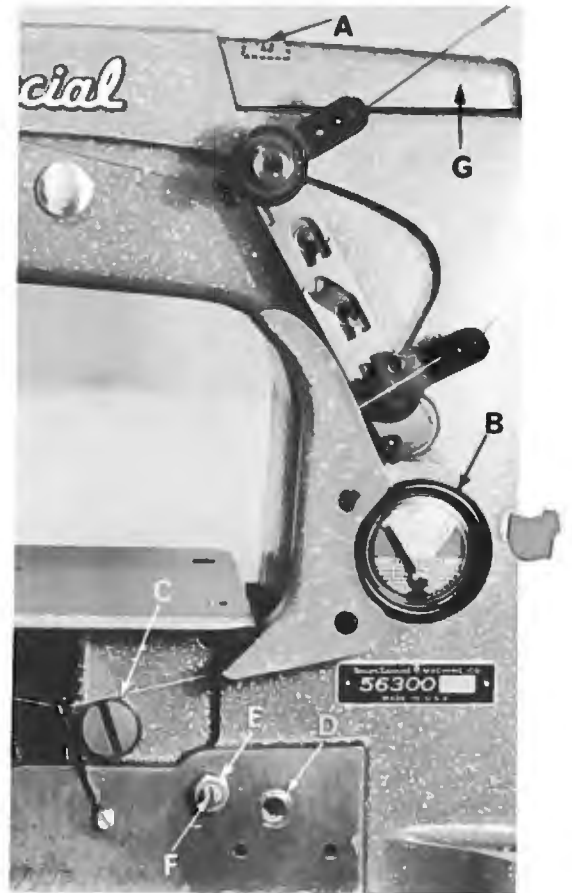
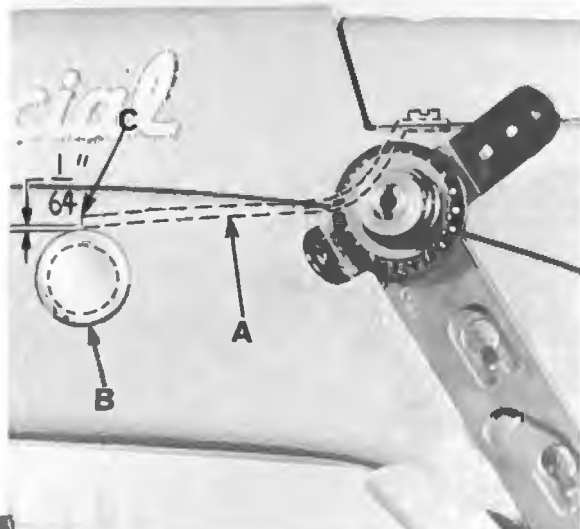

Fig. 2
Fig. 3
Use a straight mineral oil of a Saybolt viscosity of 200 to 250 seconds at 100° Fahrenheit in the main reservoir. This is equivalent to Union Special specification No. 83. Fill main reservoir at plug screw in upper crank chamber cover (A, Fig. 2) and check oil level at gauge (B). Oil is at maximum level when needle is in yellow band marked "Full". Oil should be added when needle is in yellow band marked "Low".
5. Fill main reservoir to a level even with the bottom contour of the knee press shaft bushing (D, Fig. 2).
6. Loosen lock nut (E) on the calibrating screw (F), and turn the screw to the left or right until the gauge needle rests in the middle of the yellow band marked "LOW".
7. Tighten lock nut (E) and replace plug screw (C).
Remove the head cover and upper crank chamber cover (G, Fig. 2). Check position of needle lever bearing oiler (A, Fig. 3) located inside the arm casting, below the upper crank chamber cover, which lubricates the needle lever stud (B). Make sure it is tilted downwardly and that its delivery end (C) contacts the inside wall of the bed casting at the back, just above the notch of the needle lever shaft stop collar. (Do not allow the oiler to rest on the needle lever.) Allow 1/64 inch clearance as in Figure 3.